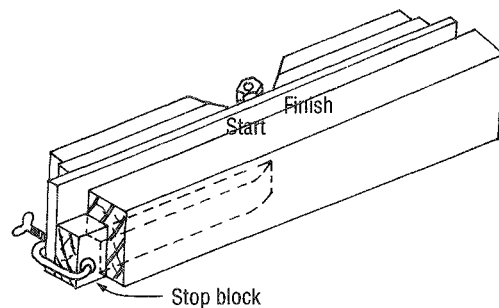

Fig. 5.47 Use of stop block (G cramped or nailed).
3. Place the premarked-out timber on to the machine bed and position it so that the point that shows where the rebate should stop is next to the point labelled 'finish' and position a stop block at the end (**Fig. 5.47**).